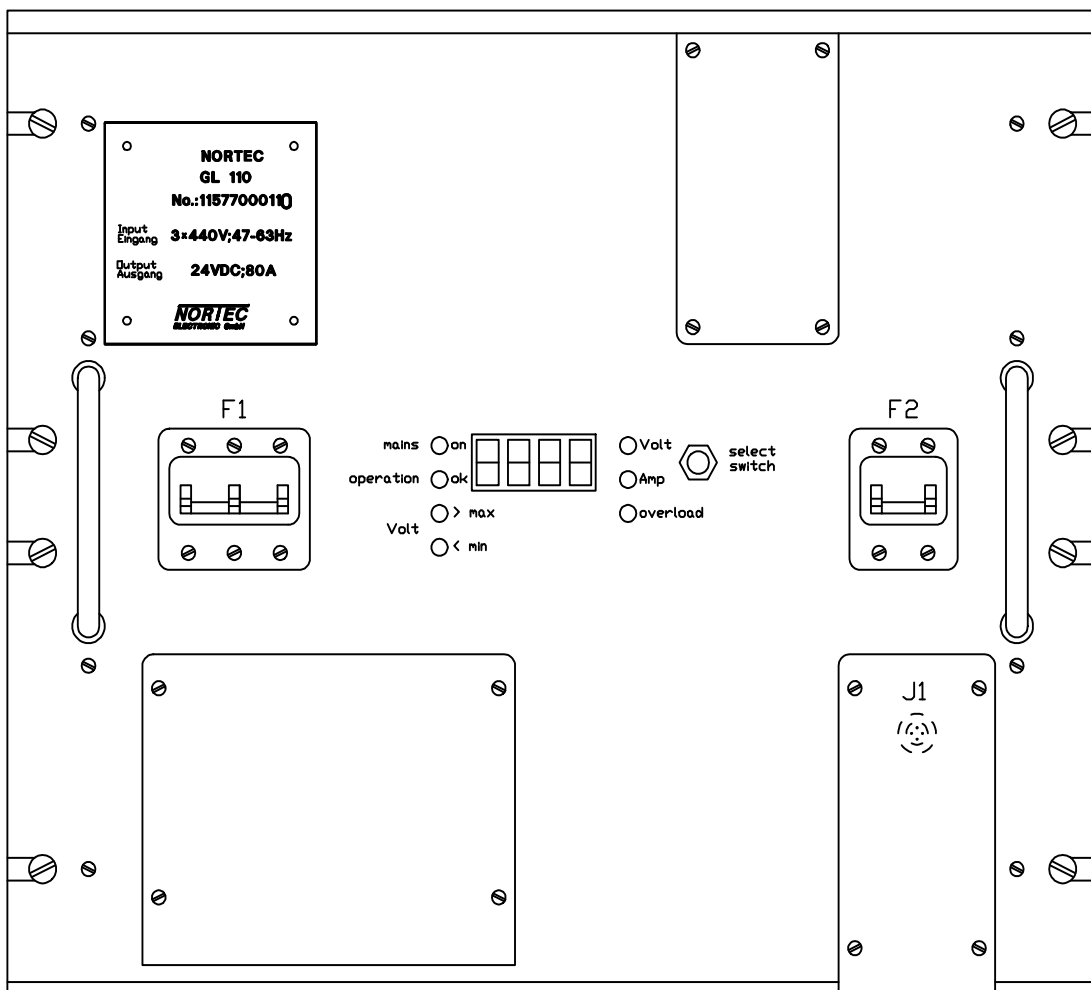

Fig. 4.1 Front panel GL110
4.2 Operating and display elements (Fig. 4.1)